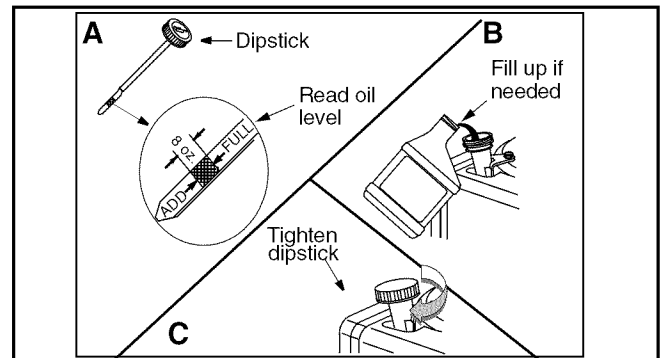

Figure 11
1. With engine on level ground, oil must be to FULL mark on dipstick. See Figure 11 .